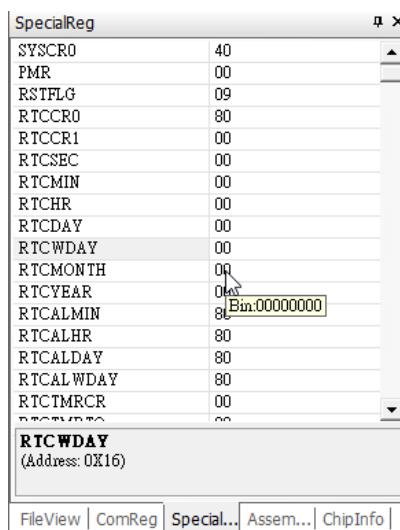

Figure 4.4 Special Registers
**SpecialReg window**– in the special register window, the hexadecimal value of the register content is displayed after the special register name, when the mouse moves over the value, the binary result will be displayed, which is more convenient For observations, see Figure 4.4. At the same time, the address and a brief description of the register will be displayed at the bottom of the window. You can directly modify the value in the special register window, or click "..." in the value box to view the function description of the corresponding bit of the special register, and then configure the register according to the function.